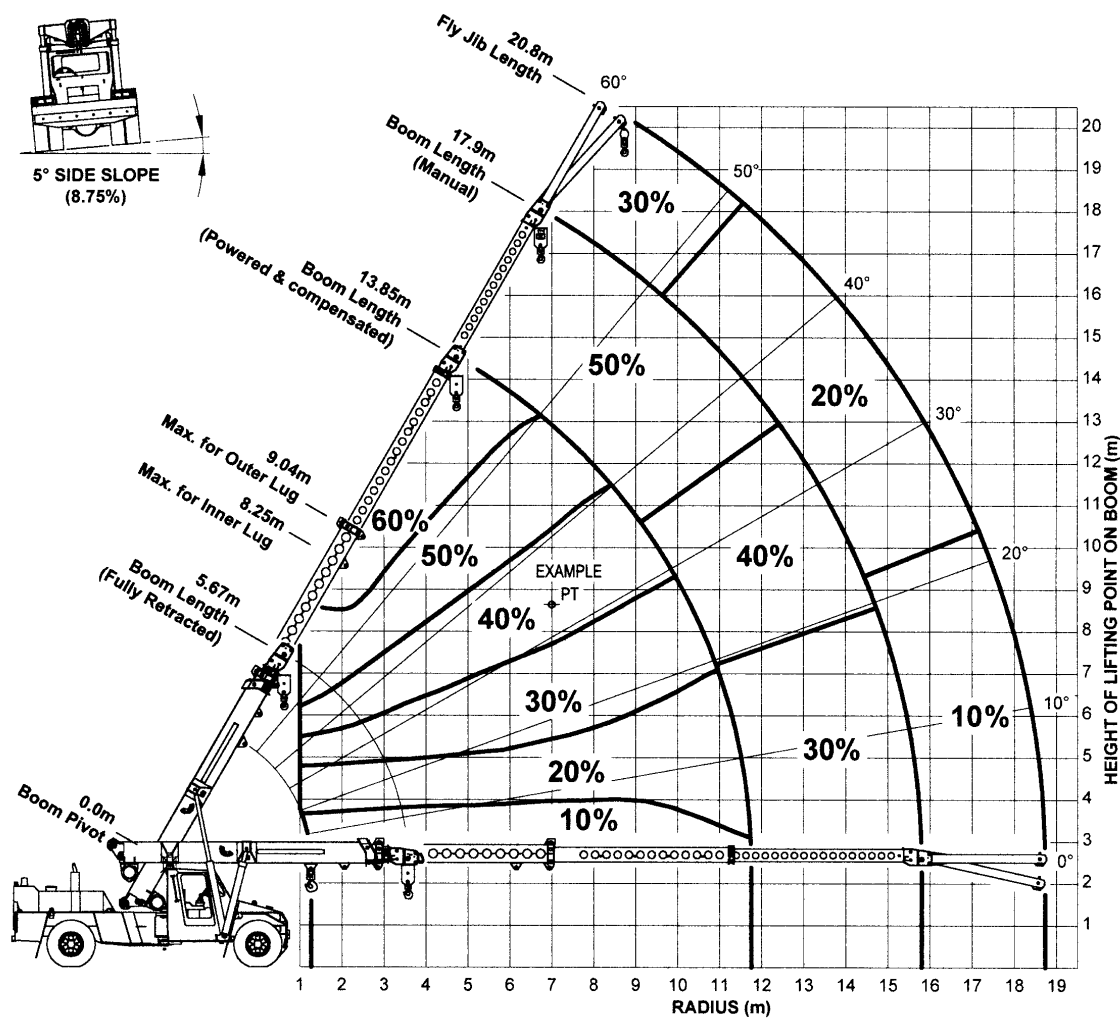

Figure 1: Percentage Deration Chart for AT-20 at 5° Side Slope
- **REDUCE** the Rated Capacity of the crane by the percentage value for the crane as shown in figure 1 for operating on side slopes up to 5° (8.75% gradient) - **REMEMBER** the crane's load indicator will **NOT** automatically derate the Rated Capacity.
Percentage Deration:	40 % (From Figure 1: Percentage Deration Chart)